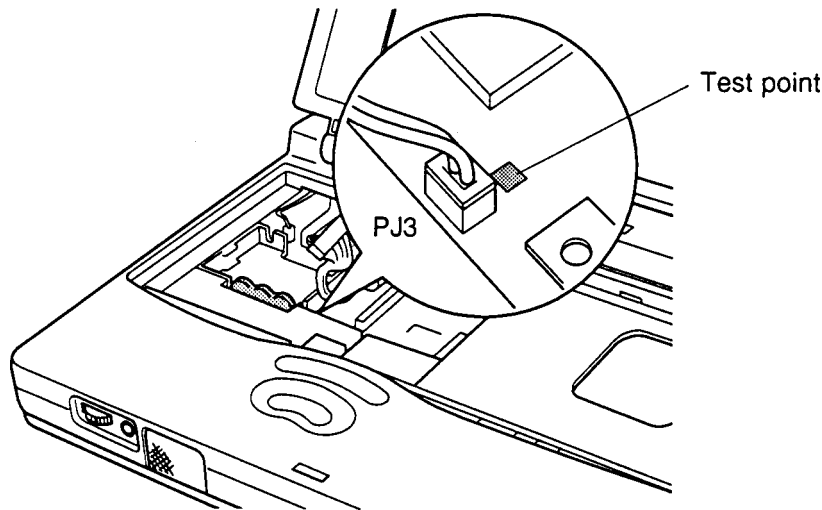

Figure 4-30 Measuring the voltage at PJ3
To install the RTC battery and top cover with display assembly, follow the steps below and refer to Figures 4-30 back through 4-27.
6. Connect the **Real Time Clock battery** to **PJ3** on the system board. Using the multimeter, measure the voltage on the test point of **PJ3** (Figure 4-30).